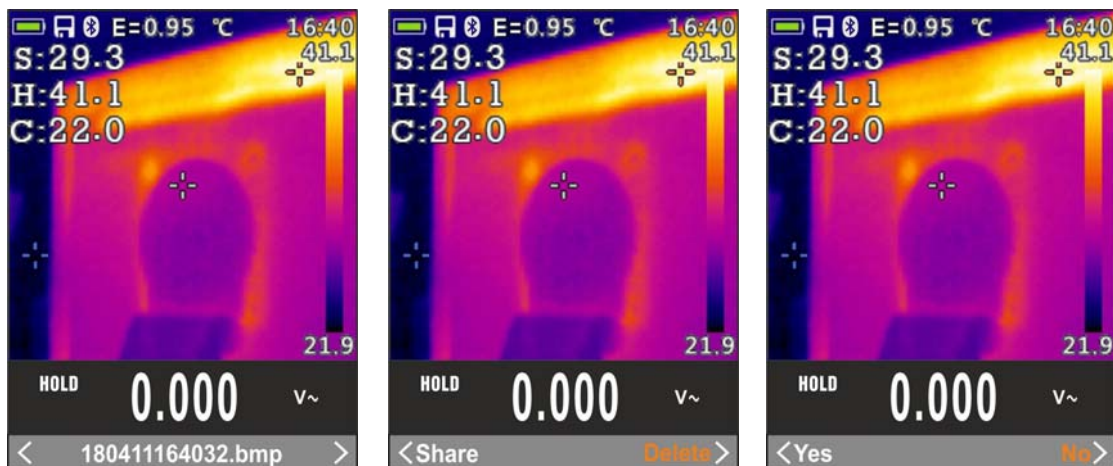

Fig. 42: Recalling and deleting IR images
11. Enter the General menu to display the saved result (see Fig. 42 – left side)